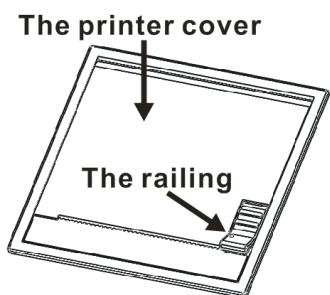

Figure 5-1
- 2) Grasp the railing to pull up, open the printer cover (Figure 5-1).